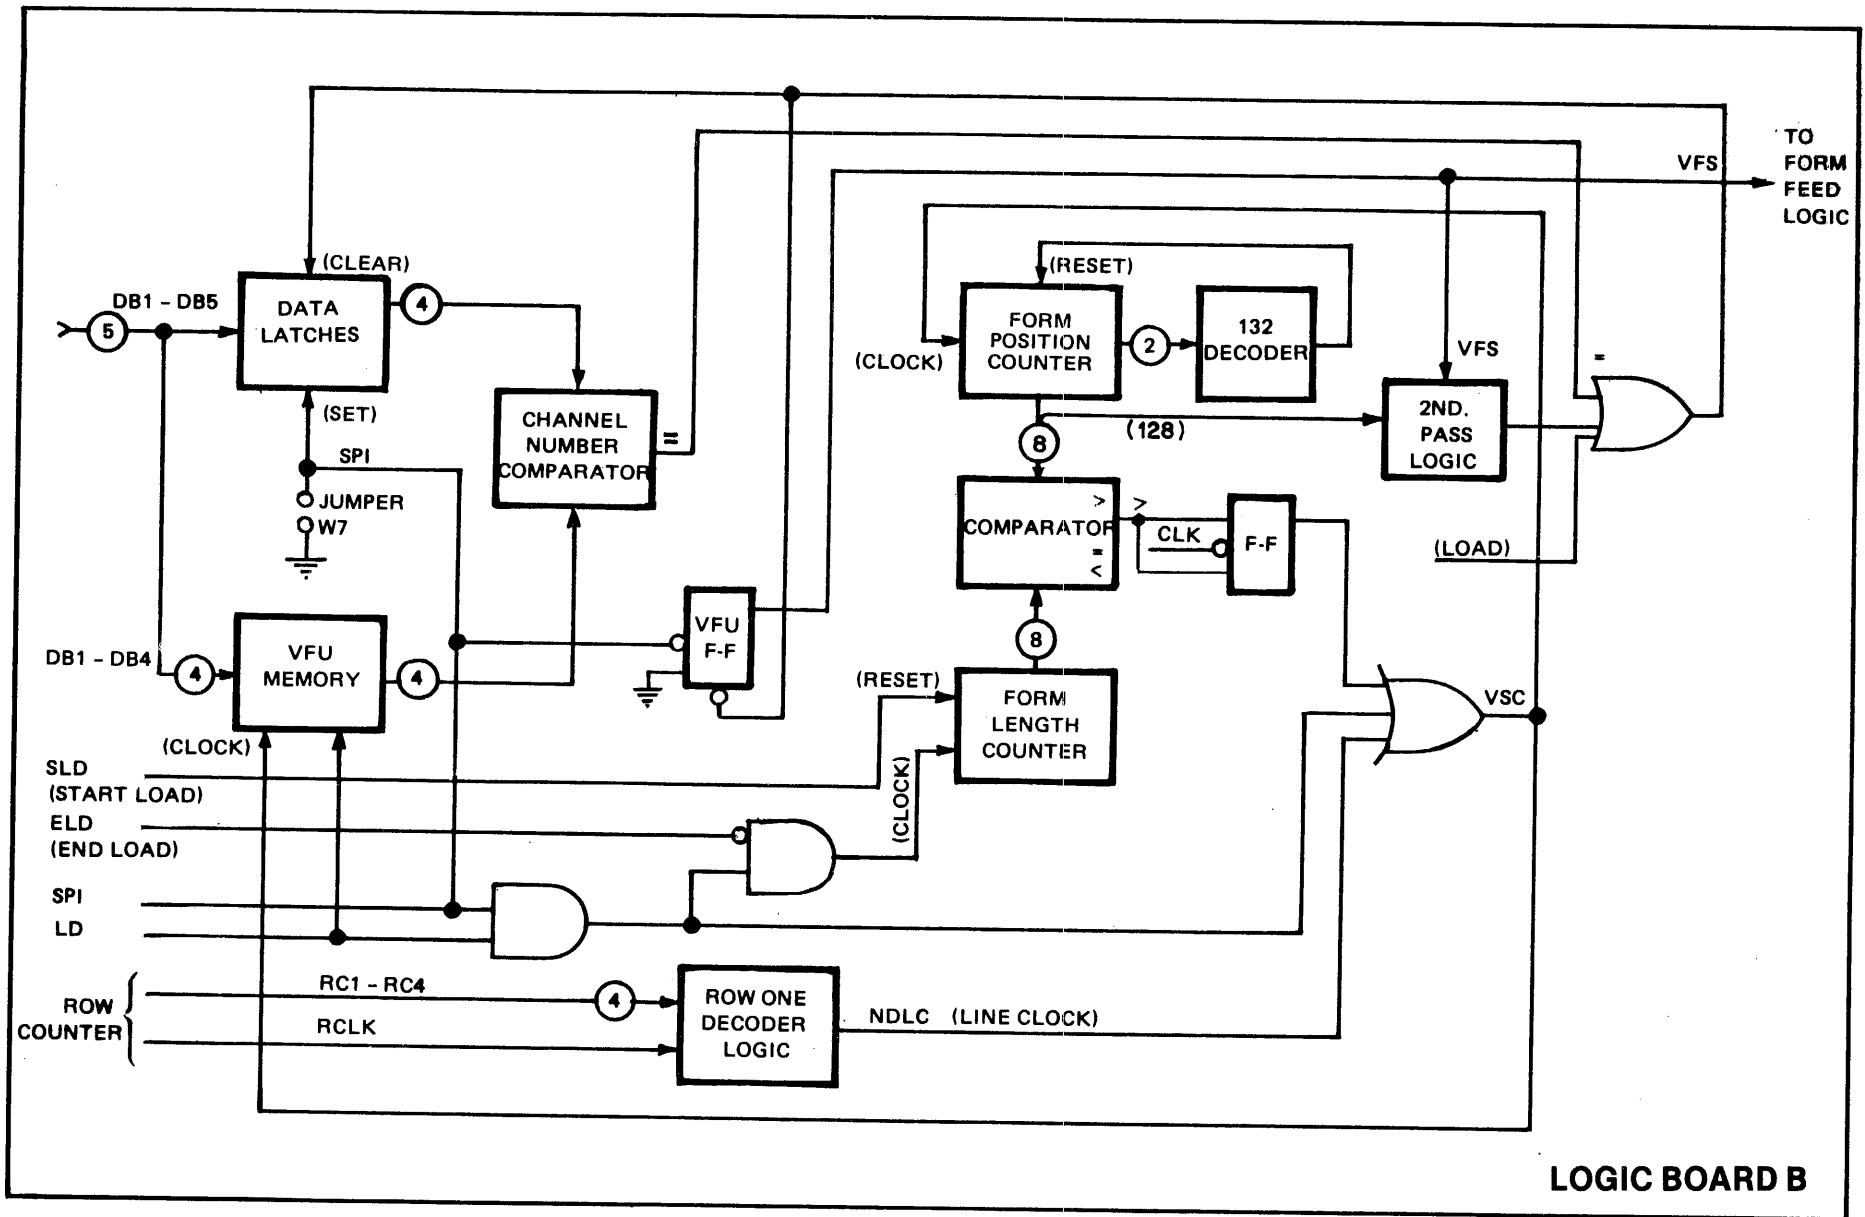

Figure 29 Electronic VFU in Channel Number Search Operation, Functional Block Diagram
**Loading.** As the VFU memory is loaded with 4-bit channel numbers, both 8-bit counters (figure 29) accumulate the number of characters loaded. As the last character is loaded and ELD becomes true, however, that character is counted only by the upper counter.